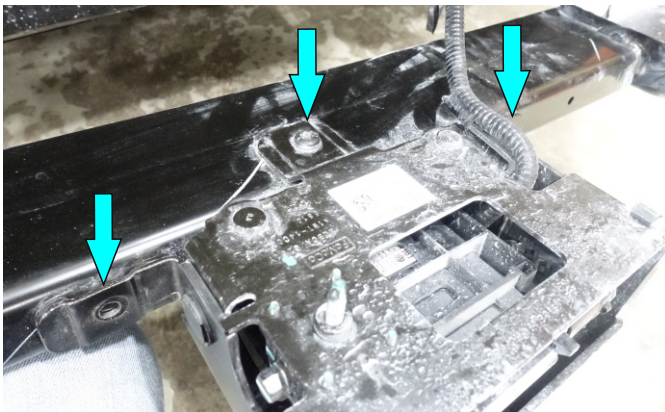

Fig.15
15. Unscrew factory bolts (fig.15).